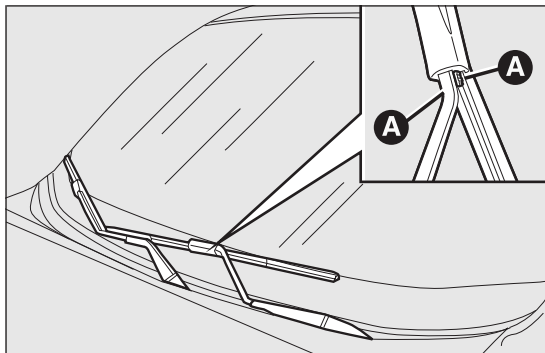

fig. 189
- ☐ press tabs A fig. 189 and remove the blade from the arm;